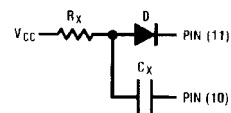

FIGURE 2.
- If CX is an electrolytic capacitor a switching diode is often required for standard TTL one-shots to prevent high inverse leakage current Figure 2.